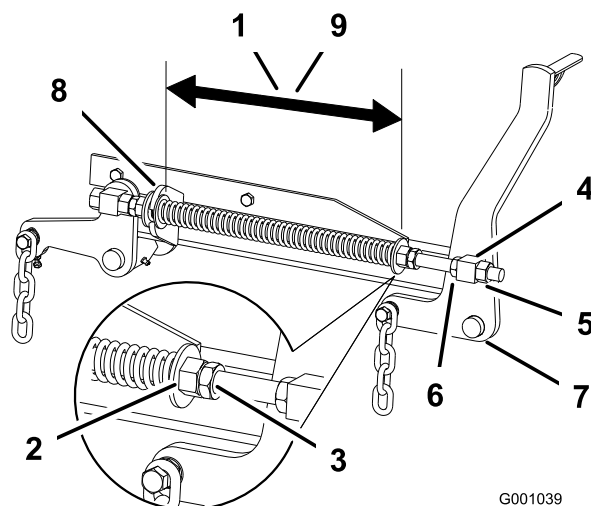

Figure 77
- Check the distance between the two large washers, it needs to be 10-1/2 inches (26.7 cm) for 60 inch mower decks or 11-1/2 inches (29.2 cm) for 72 inch mower decks (Figure 77).
- Adjust this distance, by loosening the spring jam nut and turning the nut in front of each spring (Figure 77). Turning the nut clockwise will shorten the spring; counter-clockwise will lengthen the spring.
- Lock the nut into position by tightening the spring jam nut (Figure 77).